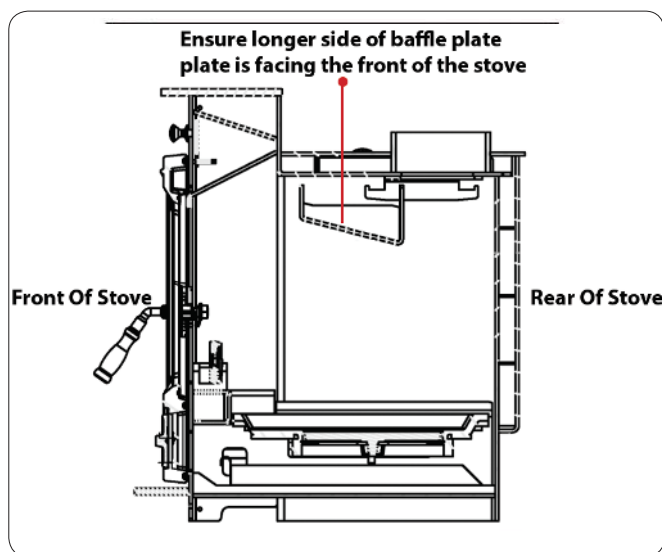

fig.5 - Baffle Plate Location
- Next to be removed is the fixed, baffle. This is held in place by two bolts. Undo these and the baffle can be removed (**fig. 5**).